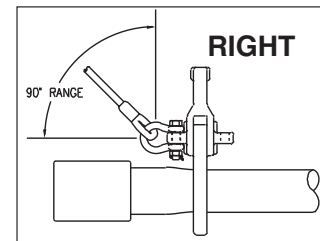
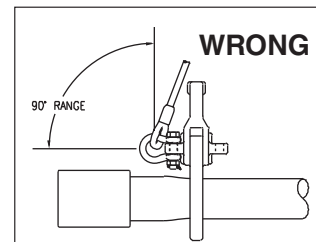

Figure 4
Figure 5
- The hoist line may only apply the load in a 90° range (see Figure 4). Do not apply a load in any other direction or allow the hoisting line to come into contact with the grab (see Figures 5 & 6). The hoist line must pull towards the coupler end.